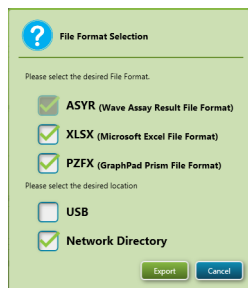

Figure 18. Export options dialog box
- 2 Export Options:** Assay Result files may be exported to Microsoft Excel or GraphPad Prism file formats (requires a USB flash drive or shared network directory). See Figure 18 on page 31.